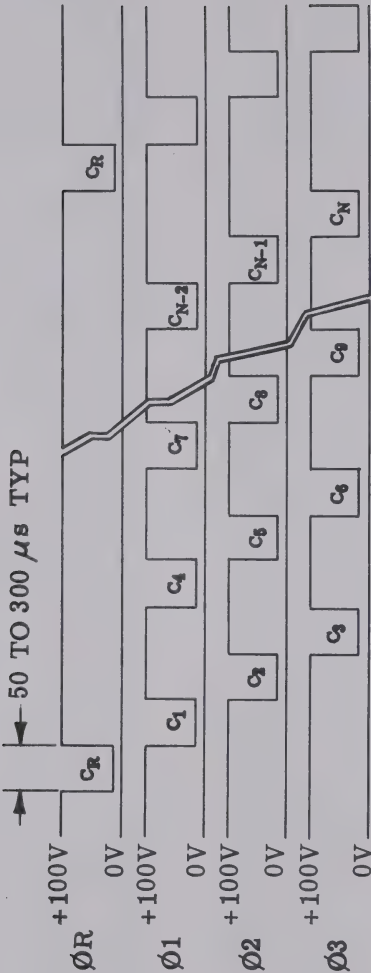

Figure 3.
5. After ionization is achieved on the scan side of the reset cathode and the reset pulse is returned to logic 1, the first negative transition of the clock pulse advances the J.K. counter. (The timing diagram, Figure 3 shows the sequence of the reset pulse in relation to the clock pulses.) When the J.K. counter advances, the transistor ($Q_{\theta 1}$) directly coupled to the phase 1 bus turns on and the reset transistor turns off. Consequently, all cathodes tied to the phase 1 bus (every third cathode) are brought to ground and the reset cathode is returned to +100 volts.
7. The next clock pulse (Figure 3) advances the J.K. counter, turns off the bus 1 transistor ($Q_{\theta 1}$) and turns on the bus 2 transistor ($Q_{\theta 2}$) which resets the $\theta 1$ cathode to +100 volts and grounds the $\theta 2$ cathode (and all other cathodes connected to bus 2).